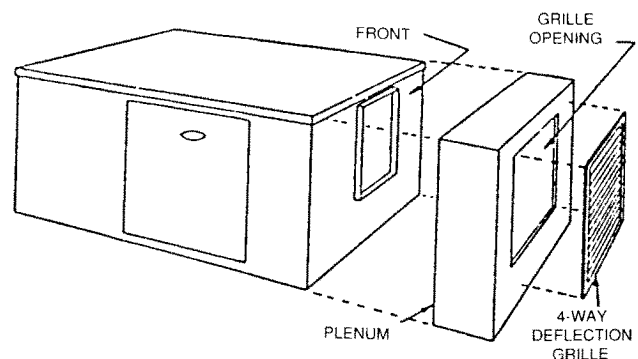

Fig. 10 - Grille Plenum Installation
3. Line up grille plenum on front of unit. (Fig. 10).